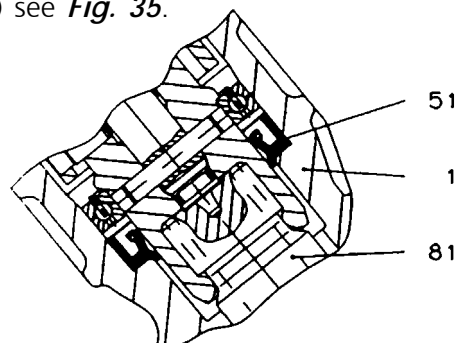

Fig. 35
Alignment of shaft seal (51) see *Fig. 35*.